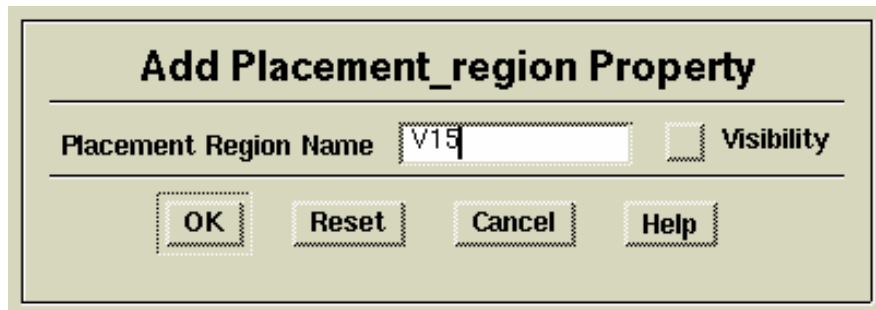

Figure 2-47. Add Placement_region Property Dialog Box
11. Enter **V15** in the dialog box and be sure **Visibility** is turned off, as shown in Figure 2-47. **OK** the dialog box.